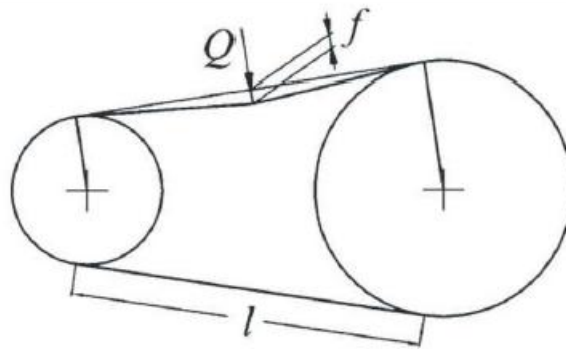

Figure 5-1: Reference diagram of the flexion method for trapezoidal or toothed belts.
Using the “flexion method”, it is necessary to measure the displacement (f) due to the application of a force (Q) in the middle of the free section of the belt (l) and perpendicular to it. Figure 5-1 can be used as reference. The displacement is usually about 1.5% of the free stretch applying a force. Both the arrow value and the force value are indicated in the datasheet of the transmission system.